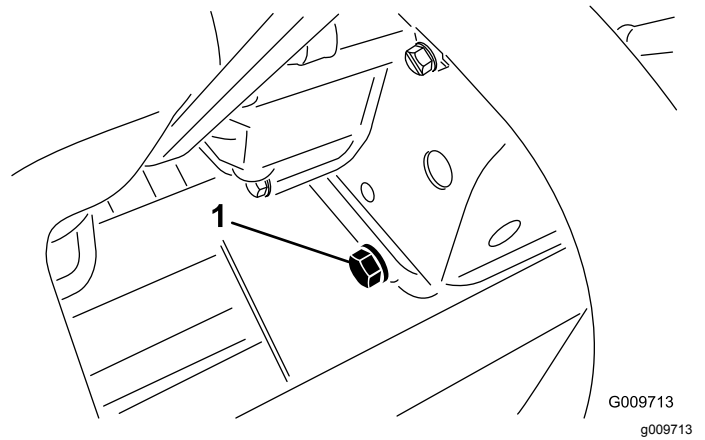

Figure 32
1. Remove the rear drain plug (Figure 32) and let the oil flow into a drain pan. When the oil stops, install the drain plug.